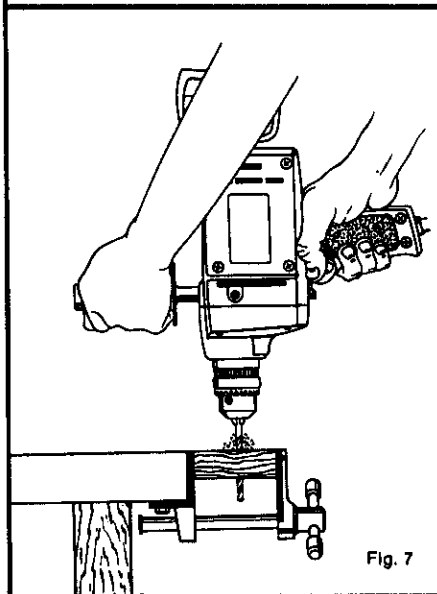

Fig. 7
See Figure 7.
7. Move the drill bit into the workpiece applying only enough pressure to keep the bit cutting. Do not force your drill or apply side pressure to elongate a hole. Let your drill and bit do the work. See Figure 7.